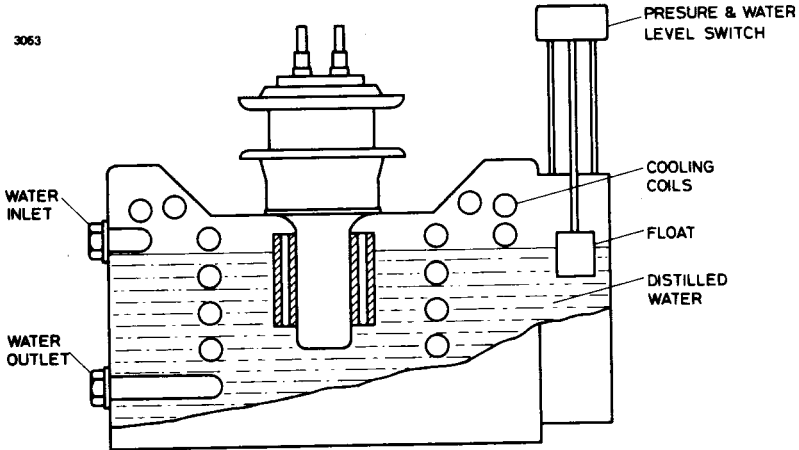

Fig. 1. Integral boiler-condenser unit
- 1) an internal condenser, consisting of a coiled tube through which cooling water flows from an external source (see Fig. 1). The quantity of cooling water required is very much less than would be needed for a water-cooled valve of the same power, and the system is so simple and compact that double boiler-condenser units are made to hold two valves.